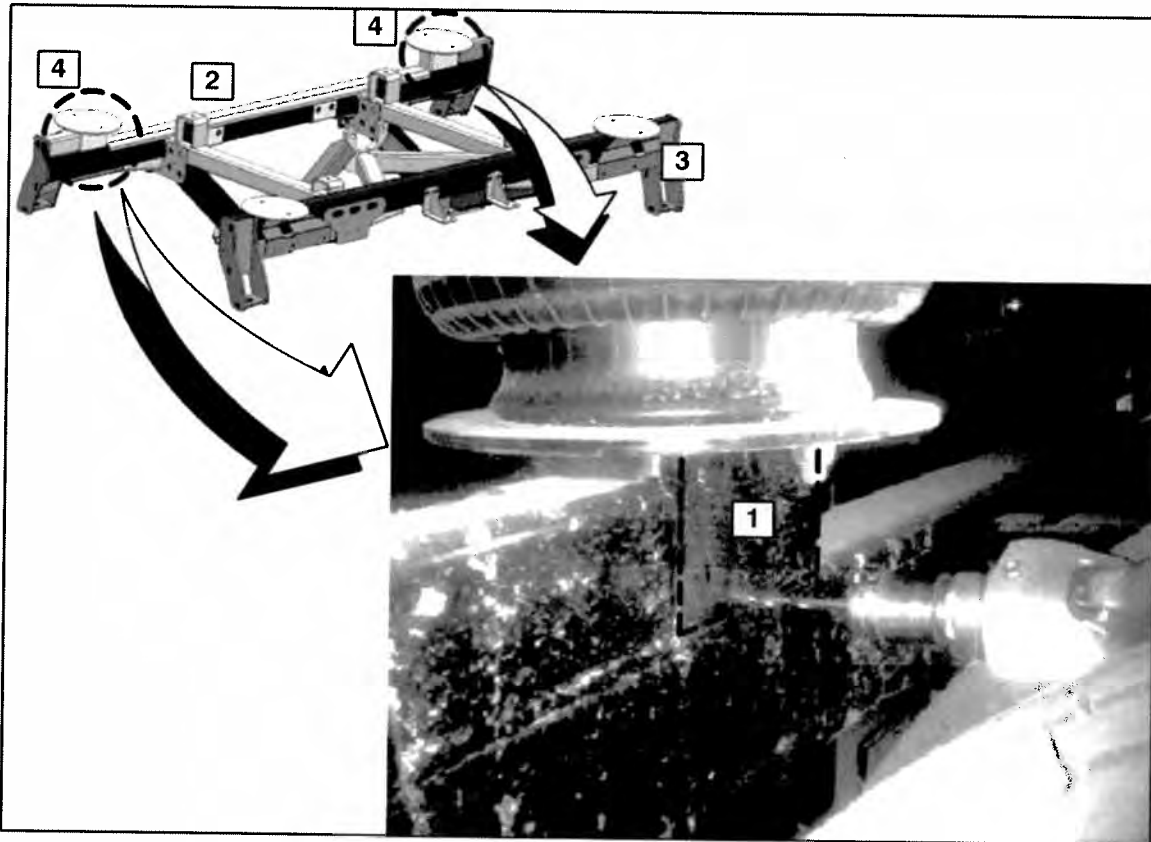

Figure 4. Two (2) drain holes drilled in the drive suspension support structure.
6. With the coach in the High Ride position, use a 0.250 inch drill bit to drill a hole 0.125 inch above the weld, directly underneath the air bag on the vertical face of the tube as shown in Figure 4. Repeat to other side of the tube.